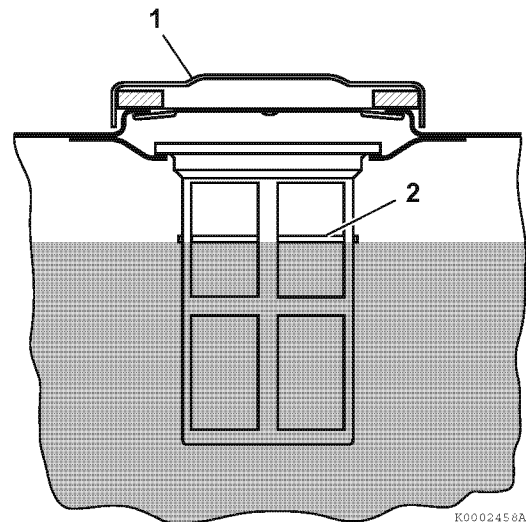

Figure 22
2. Remove the fuel cap (1, **Figure 22**) from the fuel tank.
3. Stop fueling when the fuel is at the same level as the red ring (2, **Figure 22**) at the bottom of the inlet fuel screen.